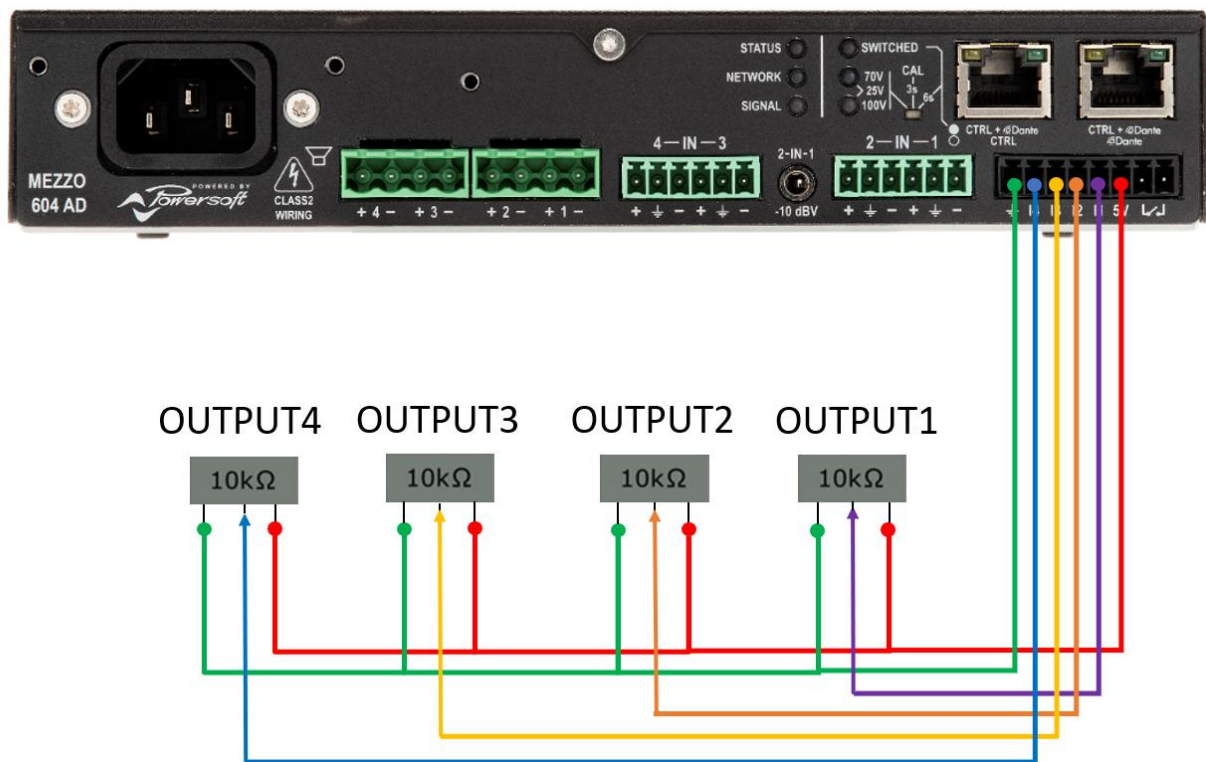

Figure 15 – Multiple Discrete 10kΩ Linear Taper Potentiometers Connected Across Multiple Channel's GPI on Mezzo
An option for controlling multiple channels on the Mezzo is to connect multiple 10kΩ linear taper potentiometers across 5v, Ground and the GPI pins of the amplifier channels you wish to control. In the connection scheme depicted below we are controlling Output Channels 1~4 with (4) distinct potentiometers (Figure 15).